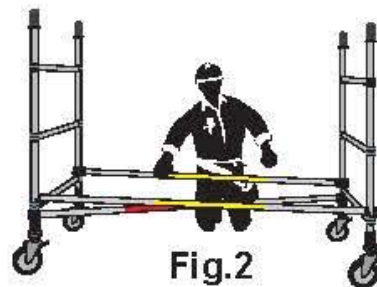

Fig.2
5. Check that the scaffold base is square – See Fig.2.